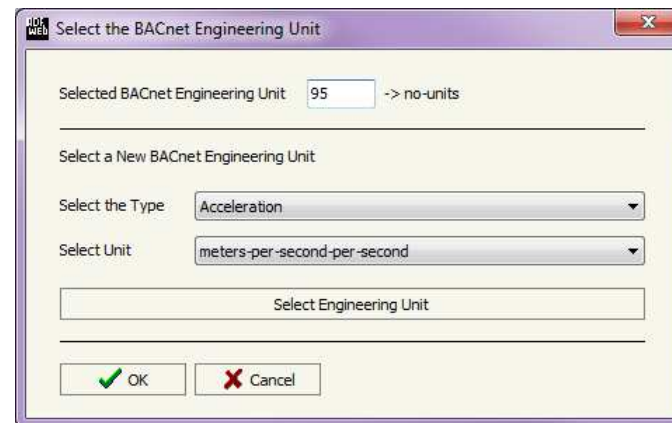

Figure 7: "Select the BACnet Engineering Unit" window
- In the field **“Eng. Unit”**, with double click the window **“Select the BACnet Engineering Unit”** appears (Fig. 7);